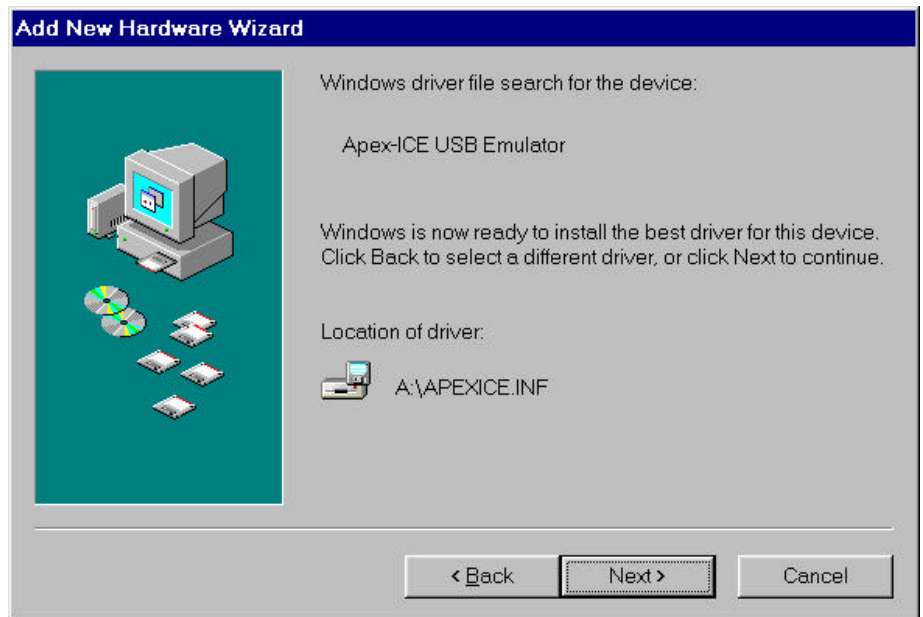

Figure 4. Add New Hardware Wizard
5. The Add New Hardware Wizard will locate the ApexICE.inf file on the floppy as shown in figure 4. Click Next